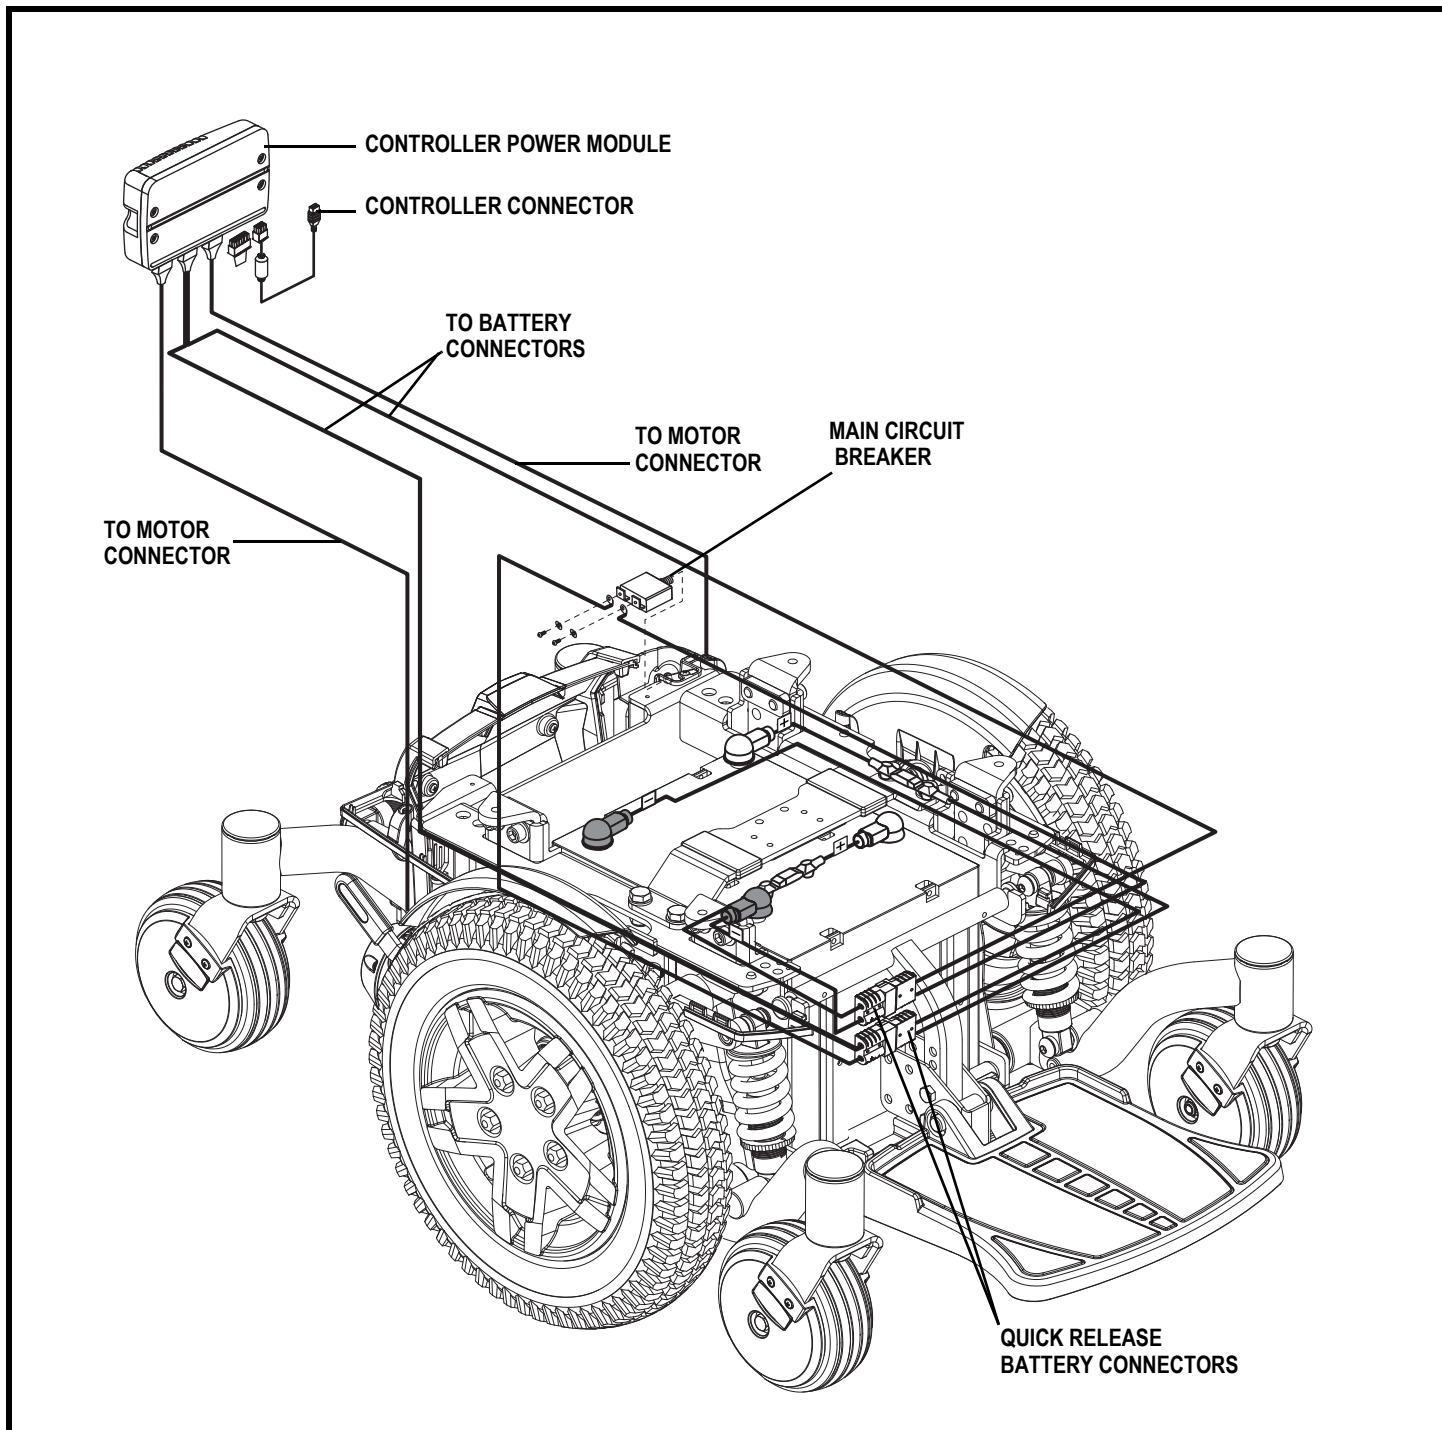

Figure 3. Jazy 600 ES Electrical Components
The electrical components consist of the controller assembly, the batteries, and the motors. The batteries, motors, and controller power module (if equipped) are located on the power base assembly. The controller is located on the seat assembly. Connectivity between the controller and the motors, batteries, and the battery charger is provided by one or more wiring harnesses. **See figure 3.**
5. Plug the controller connector into the rear of the power base. See figure 3.
3. Unplug the controller connector(s) from the power base. See figure 3.